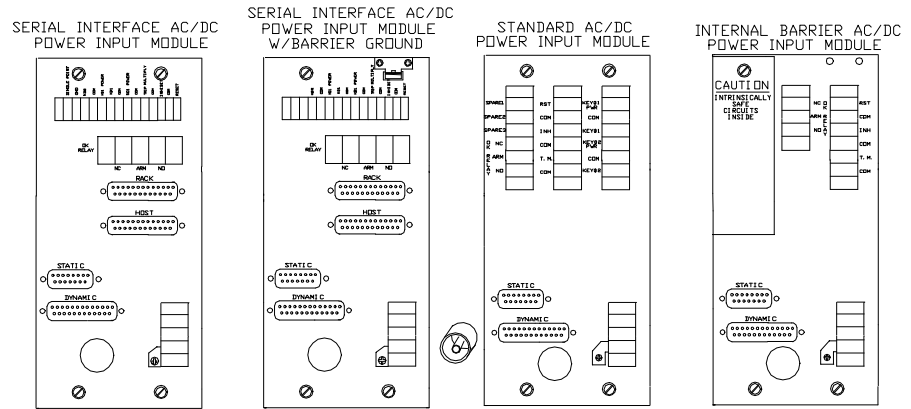

**Figure 1**
- Consists of the 3300/01-XX System Monitor, 3300/10 or /11 Power Supply and one of the Power Input Modules shown in **Figure 1**.
Use this section if you have not been able to determine the configuration using **Figures 1 through 3** in Section 2.2.